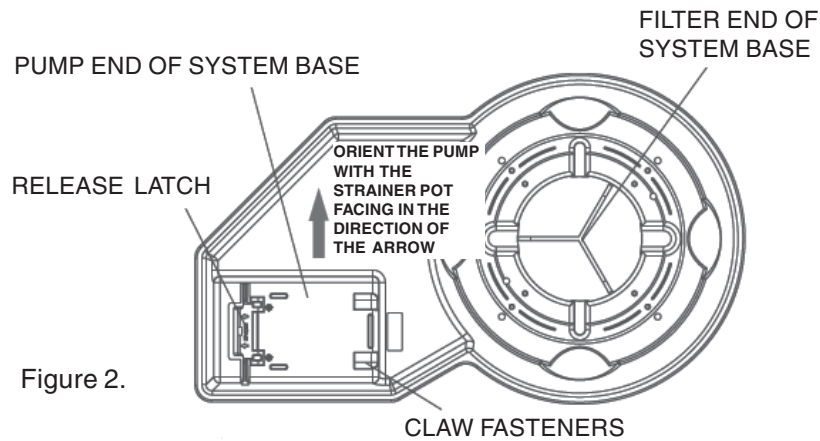

Figure 2.
- F. The pump may now be attached to the pump support side of the base. The pump should be oriented as indicated in Figure 2.